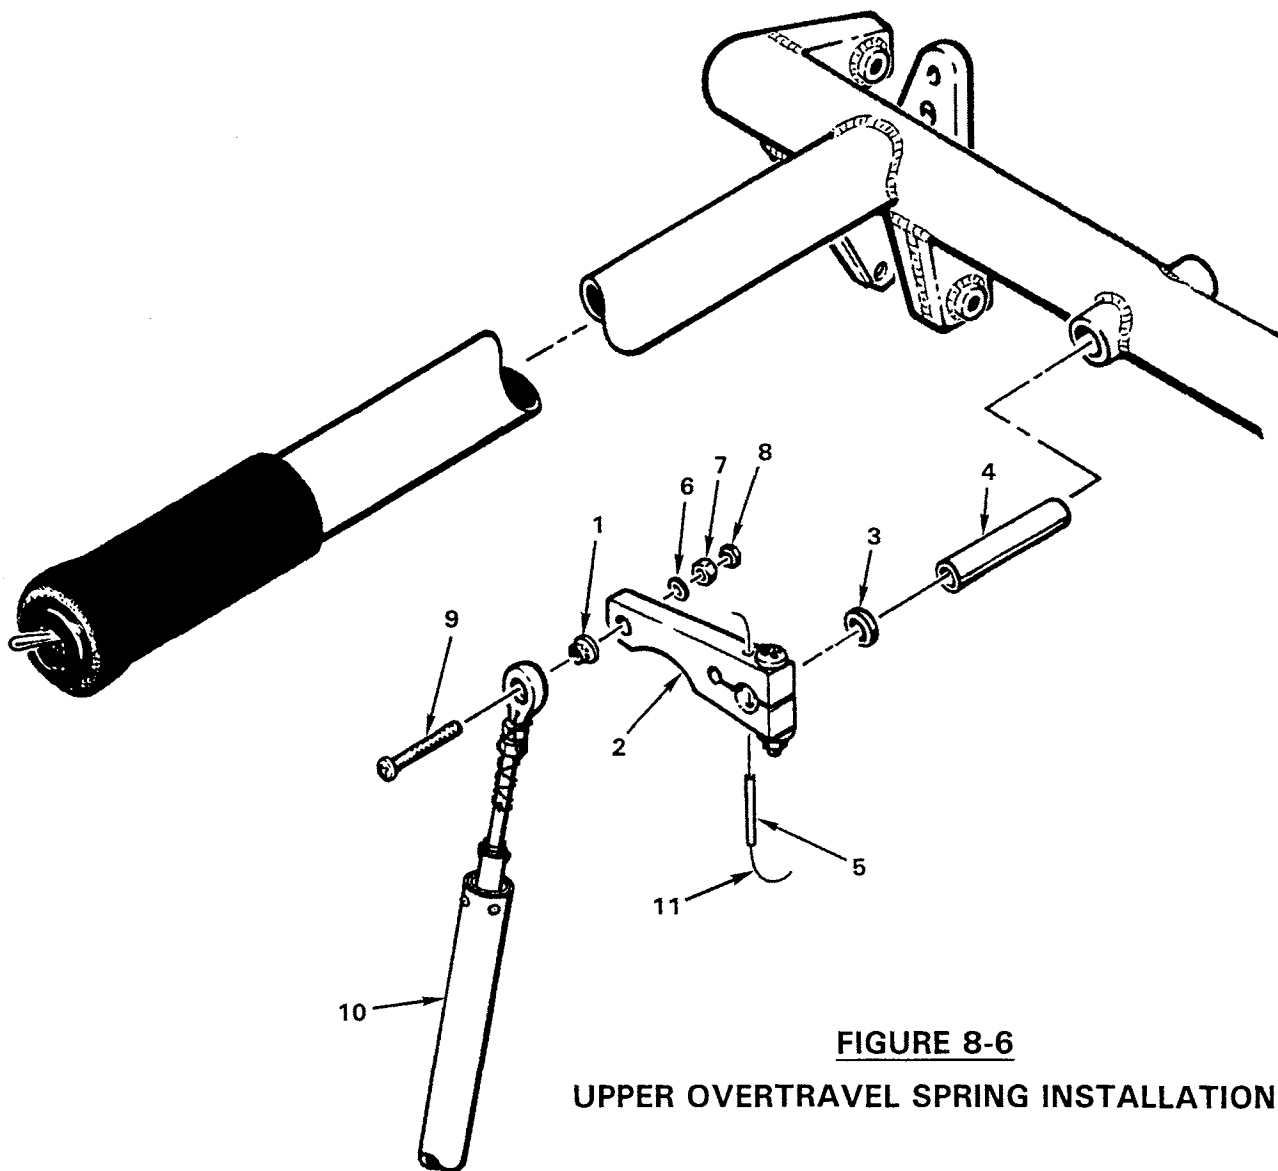

FIGURE 8-6
- g) Install the A327-1 overtravel spring to the end hole of the A342-1 collective arm. (See Fig. 8-6).